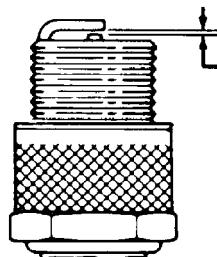

Figure 27
3. Set air gap at 0.028-0.032 inch (Figure 27). Install correctly gapped spark plug and tighten firmly to 17 ft.-lb.